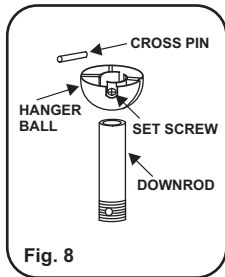

Fig. 8
Step 5. Remove the Hanger Ball from the Downrod Assembly by loosening the Set Screw and removing the Cross Pin. (Fig. 8)